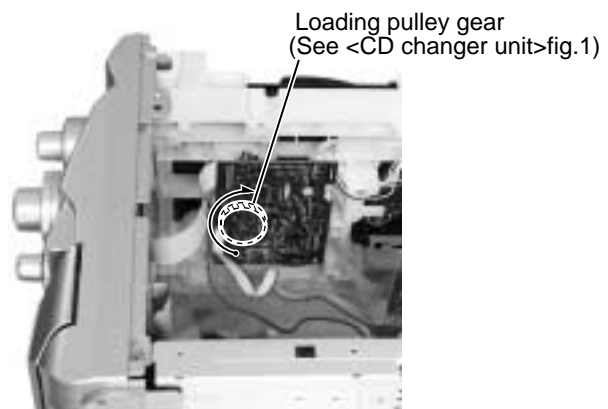

Fig.2
■ How to eject the CD tray (see fig.2)
Turn the loading pulley gear at the bottom of the CD changer unit as shown in Fig.2 and draw the CD tray toward the front.